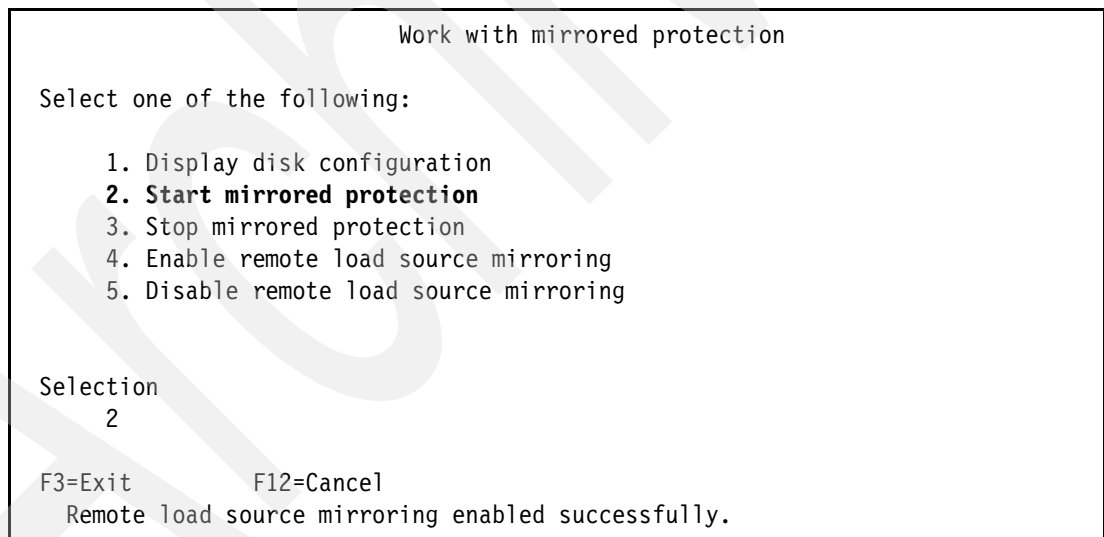

Figure 5-56 Confirmation that remote load source mirroring is enabled
6. In the Work with mirrored protection panel, you see a message at the bottom of the panel, indicating that remote load source mirroring is enabled (Figure 5-56). Select **2. Start mirrored protection**, for the load source unit.